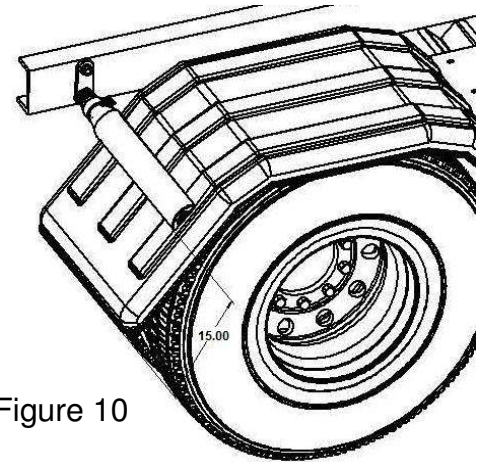

Figure 10
- D. Make sure the brackets are within 15" of the bottom of the leading edge of the fender to prevent wind from blowing the fender back into the tire (Figure 10).